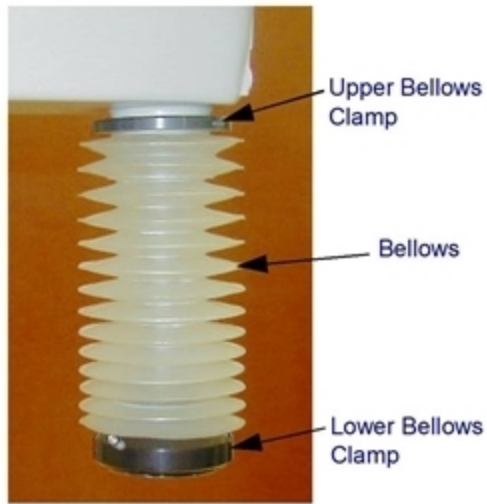

Figure 9-14. Bellows Replacement
1. Remove the lower bellows clamp by removing two M3 screws and pulling the clamp apart. See Figure 9-14.